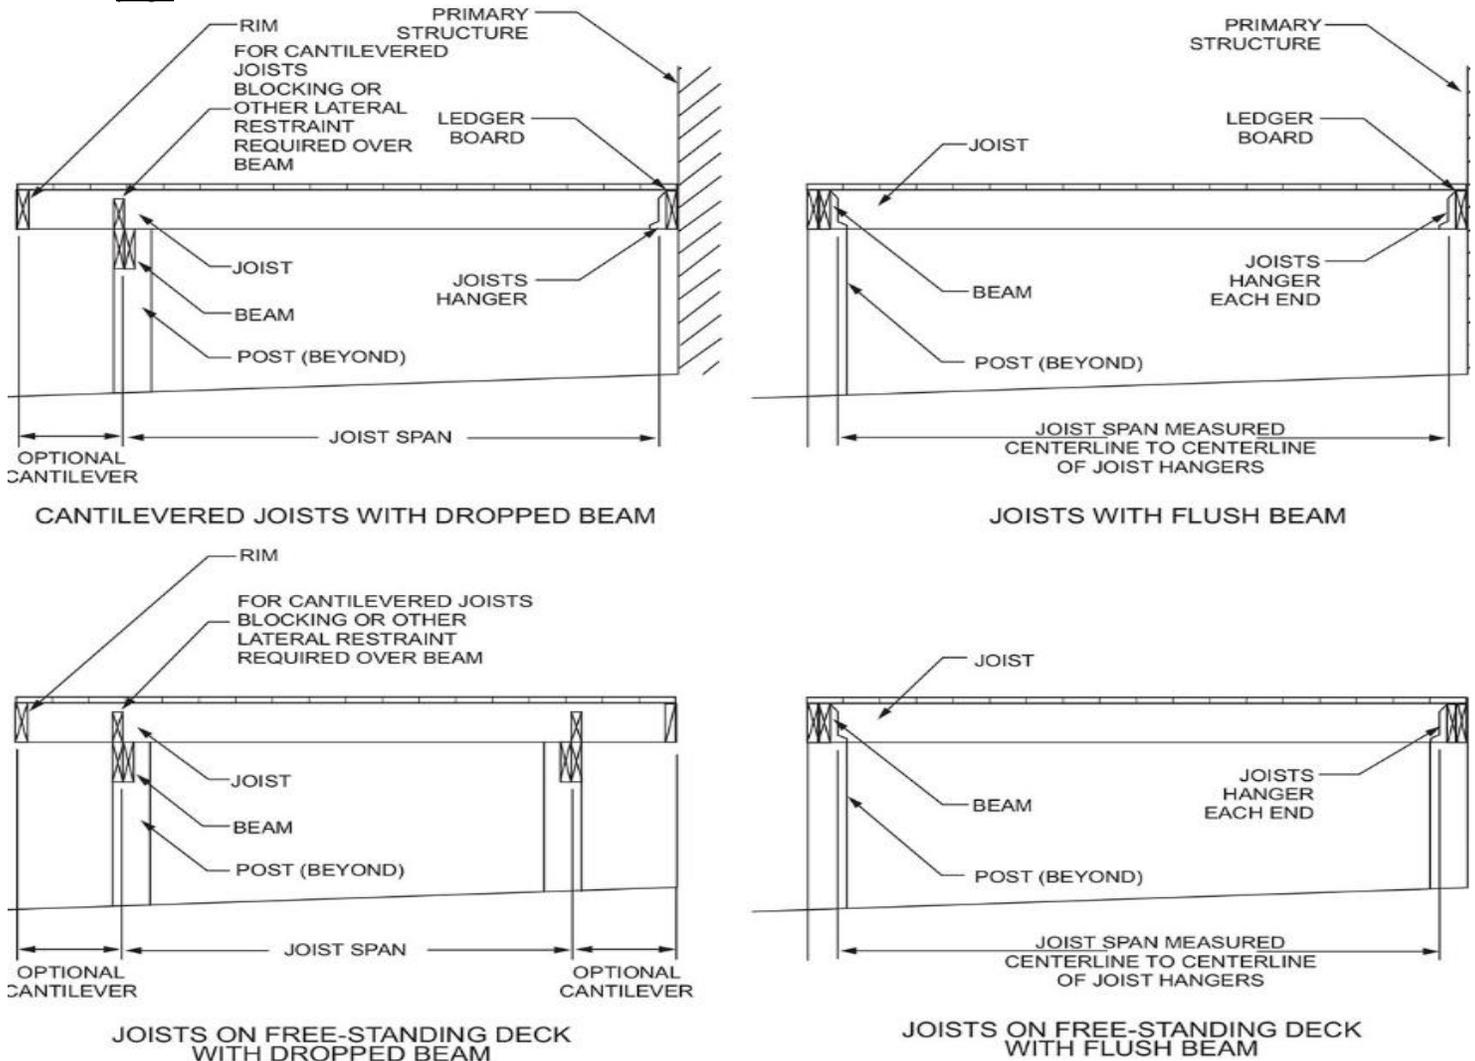

FIGURE R507.6 TYPICAL DECK JOIST SPANS
- The maximum allowable spans for wood deck joists, as shown in **Figure R507.6** below, shall be in accordance with **Table R507.6** on the next page.